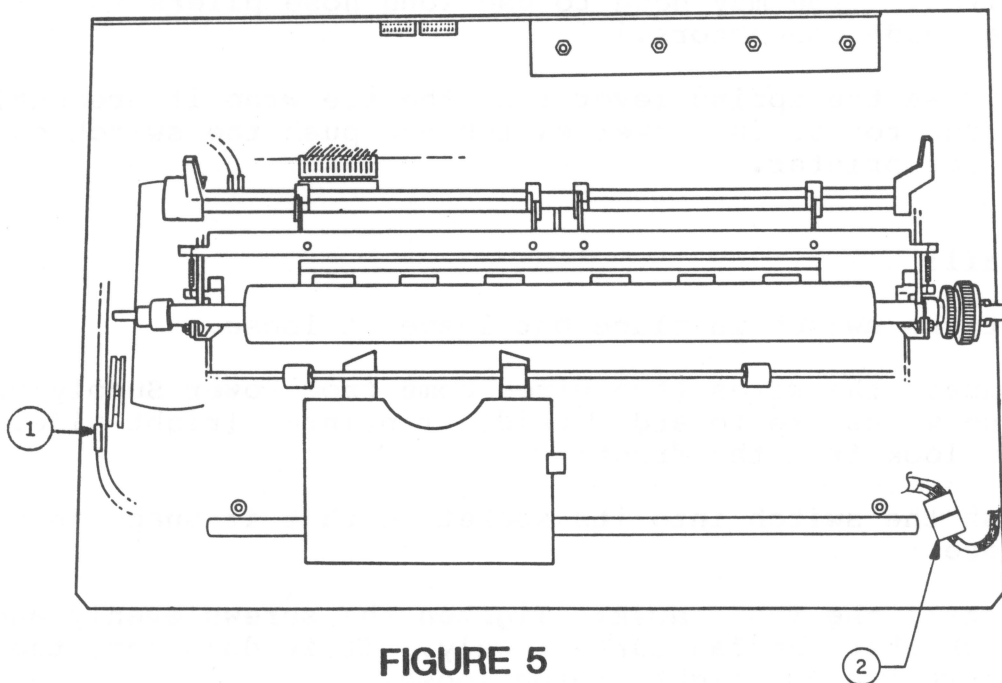

FIGURE 5
- \*5. Release the harness cable (large silver coil-wrapped cable) from its clamp near the left side-frame. (See Figure 5, #1; this clamp is not present on some printers, however.)
- \*6. Unplug the harness cable connector from its mate on the right front side of the assembly (see Figure 5, #2).